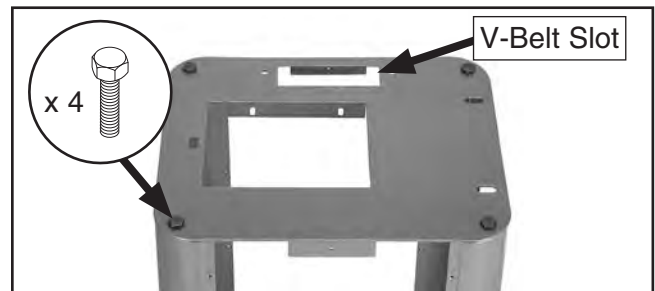

Figure 9. Top plate installed.
3. Fasten the top plate to the cabinet supports with the (4) $\frac{3}{8}$ "-16 x 1" hex bolts, as shown in **Figure 9**, so the flat side is up and the single elliptical slot is on the wheel side of the cabinet.